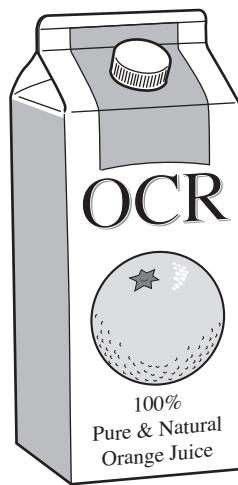

Fig. 5
Fig. 5 shows a drinks carton.
- (a) Give **four** design requirements for the drinks carton shown in Fig. 5.
- (e) (i) State a **suitable specific material** for the drinks carton shown in Fig. 5.
- (ii) Describe, in detail, how the drinks cartons shown in Fig. 5 would be manufactured as a batch of 500 000.